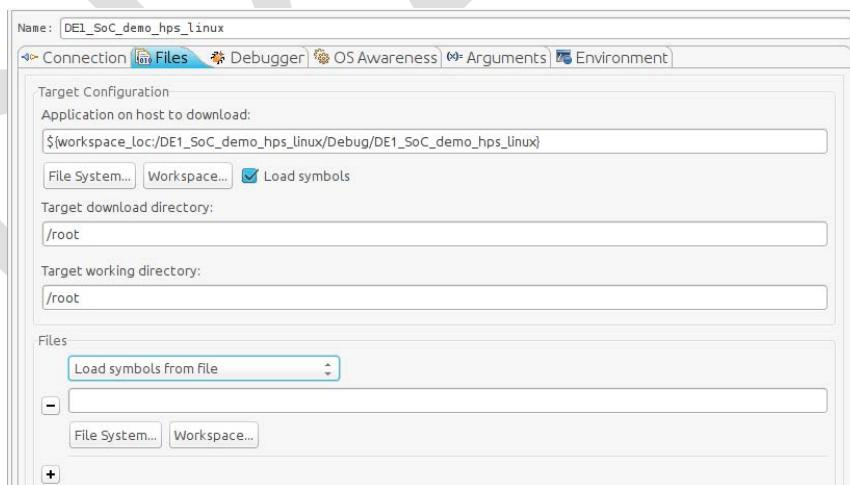

Figure 8-51. Debug Configuration "Files" Tab
- Set the "Target working directory" to "/root". You should have something similar to Figure 8-51.